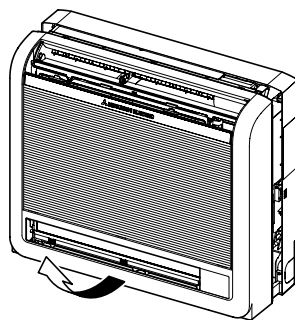

Fig. 3-4
- ④ Lift up the front grille to remove it. (Fig. 3-4)